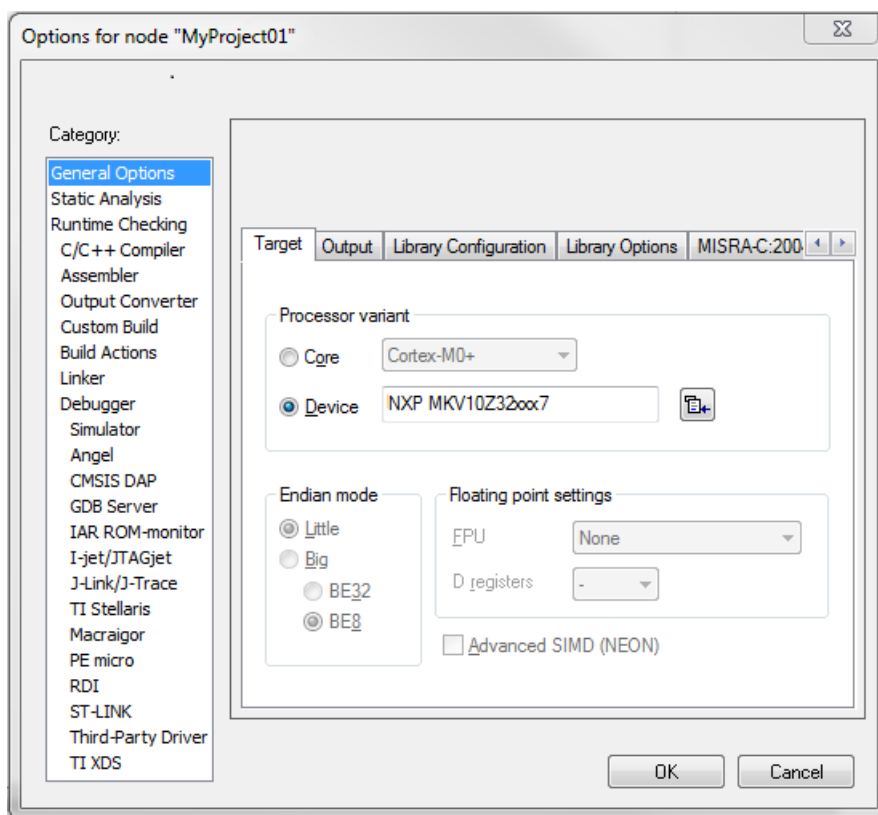

Figure 1-40. Options dialog
6. In the Target tab, select the Device option, and click the button next to the dialog to select the MCU. In this example, select NXP > KV1x > NXP MKV10Z32xxx7 Click OK. See Figure 1-40.